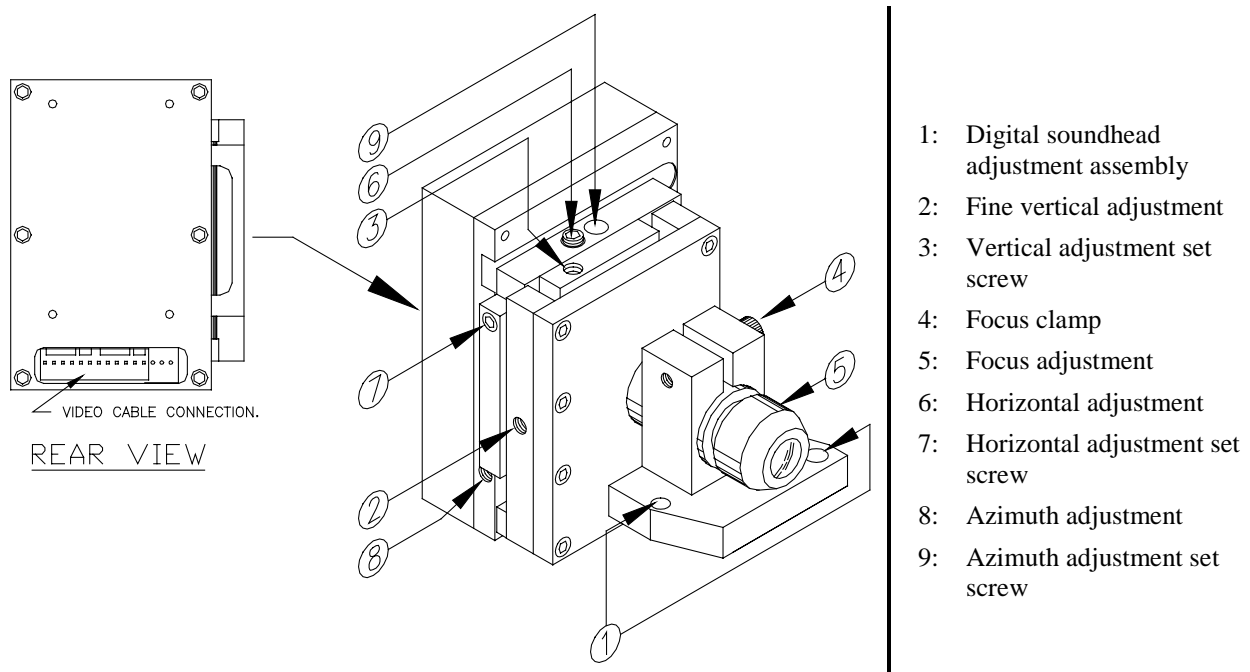

Figure 1-2: Digital Soundhead Assembly
2. Set CCD adjustment assembly to center of travel path in both horizontal (item 6 in Figure 1-2) and vertical (item 2 in Figure 1-2) directions.
4. Adjust CCD vertical positioning by pivoting entire adjustments assembly (item 1 in Figure 1-2) and fine vertical adjustments (item 2 in Figure 1-2) to achieve maximum video signal on oscilloscope.
5. Adjust with threaded lens (item 5 in Figure 1-2) at front of CCD assembly to obtain highest possible focus reading on DRAS software.
6. Adjust azimuth (item 8 in Figure 1-2) to read zero ± 2 mils with DRAS software.
7. Adjust lateral positioning (item 6 in Figure 1-2) to center image on CCD. It should read zero ± 0.5 mils on DRAS software.
10. Lock all adjustment set screws (items 3, 4, 7, and 9 in Figure 1-2).